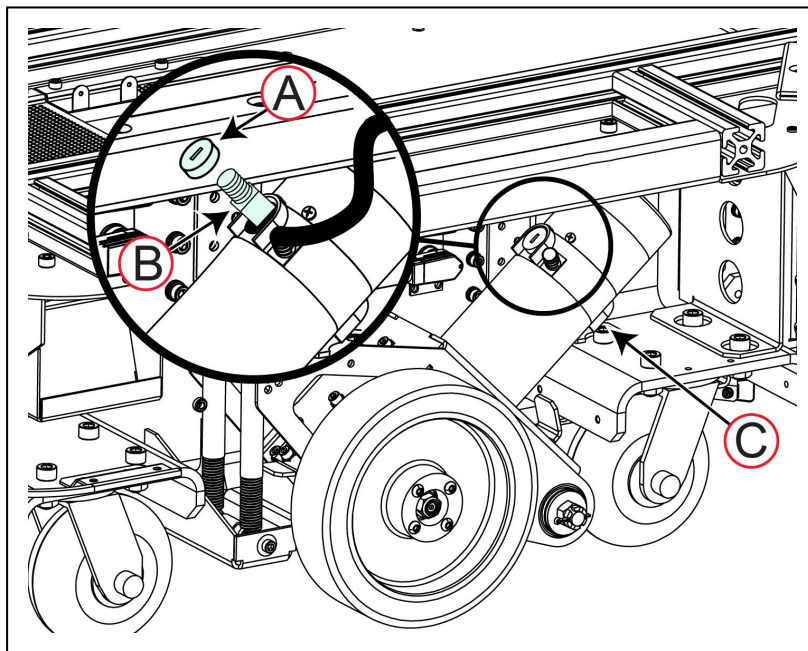

Figure 8-17 Replace the Motor Brushes
4. Use an ¼ inch (7 mm) flat-blade offset screwdriver to remove the brush cover (A).
5. Insert a new replacement brush as shown by (B) in Figure 8-17.
7. Repeat Step 3 through Step 6 for the underside brush (C).